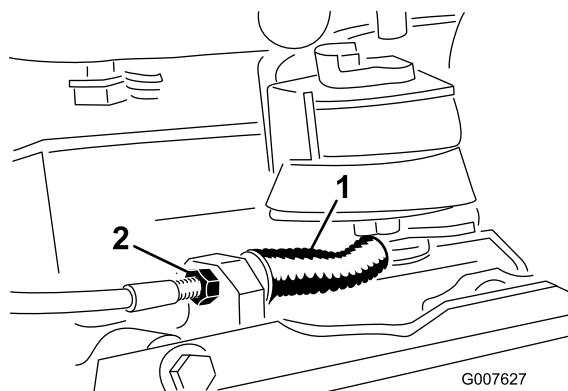

Figure 37
- To decrease the cable tension, loosen the front cable jam nut and tighten the rear jam nut (Figure 37). Repeat steps 1 and 2 and readjust if required.
- To increase the cable tension, tighten the front cable jam nut and loosen the rear jam nut (Figure 37). Repeat steps 1 and 2 and readjust if required.